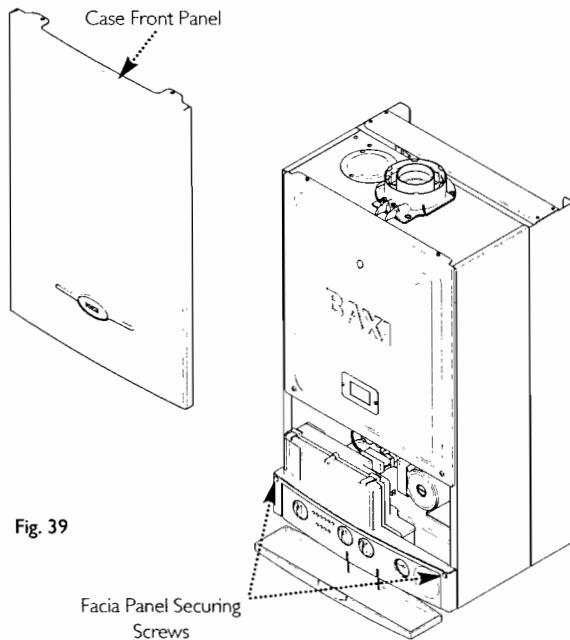

Fig. 39
5. Slacken the screws securing the fascia panel. Lift the outercase panel so that its securing tabs are clear of the fascia. Remove the panel (Fig. 39).